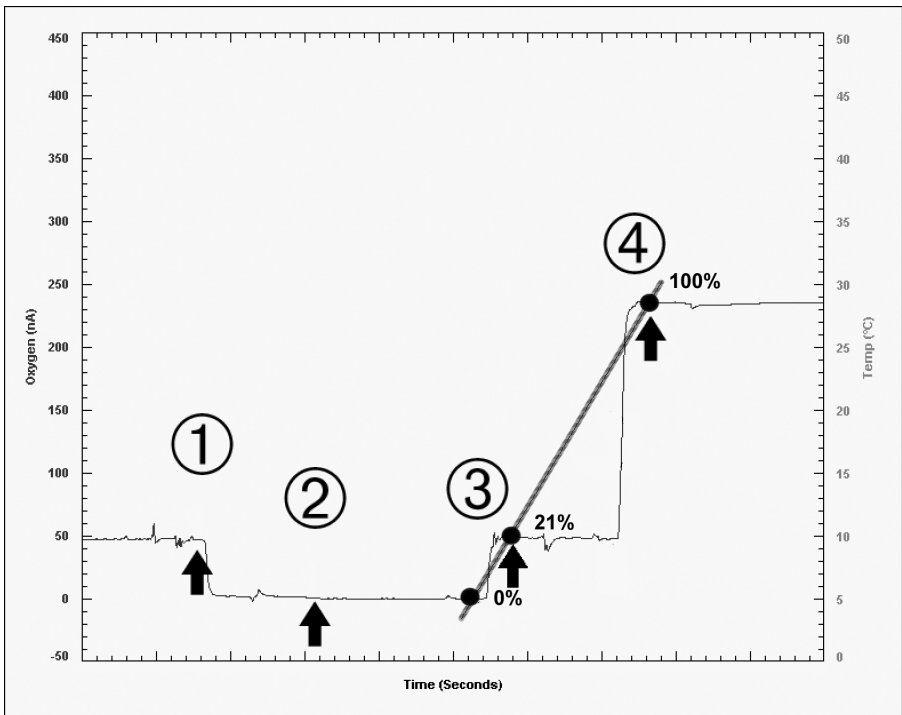

Fig. 4—Calibration record showing established baseline at point 1, 0% O₂ reading at point 2, baseline re-established at point 3, and 100% O₂ reading at point 4
8. Return the sensor to the 21% O₂ solution for at least five minutes. The oxygen measurements should return to the baseline value. The data should look similar to the graph in **Fig. 4**.